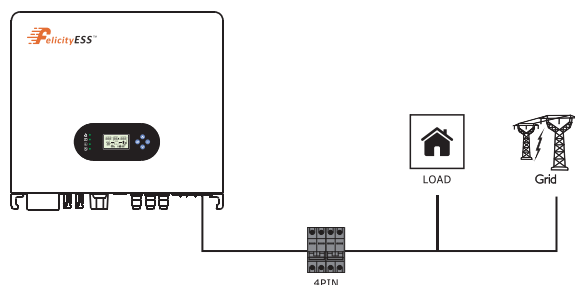

Figure 4.3-2 Ac breaker connection
1. On the AC side, the individual breaker should be connected between inverter and Grid but before loads. See Figure 4.3-2.